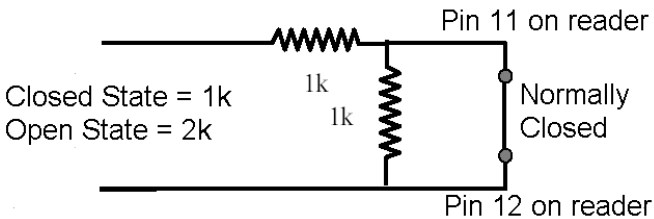

FIGURE 8. Normally Closed Supervised Wiring for Reader Tamper
4. For tamper wiring, connect Pins 11 and 12 to a normally closed supervised input, as shown in Figure 8.